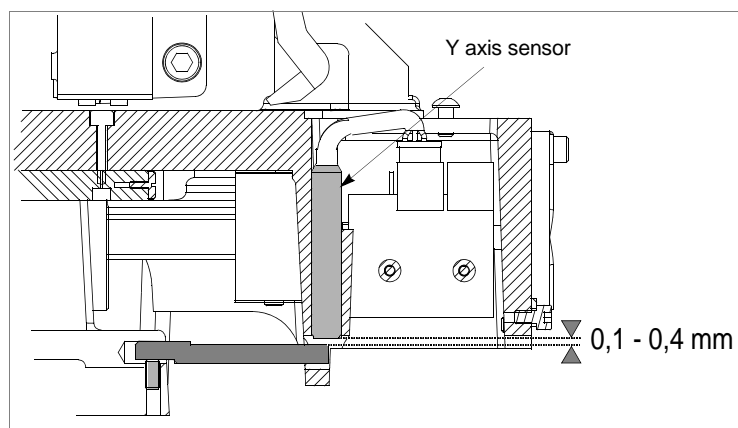

Fig. 59
- 7) remove the faulty sensor and replace it with a new one. Screw it in until it almost touches the underlying rod (fig. 59). Tighten the (M2) grub screw to lock the sensor into place.